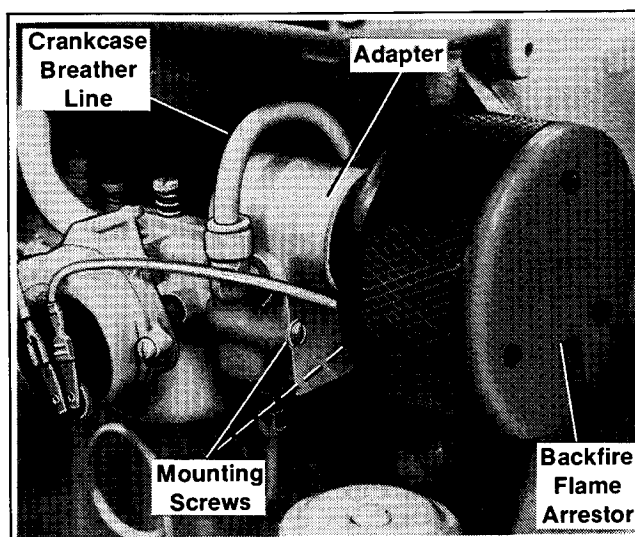

Figure 9-4. Backfire Flame Arrestor and Adapter
2. Remove flame arrestor and adapter by removing two mounting screws and disconnecting crankcase breather line at two compression nuts. See Figure 9-4.